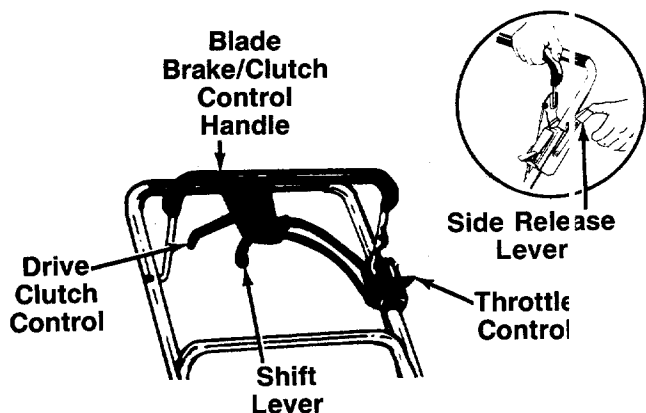

FIGURE 18.
To engage the blade, pull the side release lever away from the unit. See figure 18. Pull the blade brake/clutch control handle against the upper handle. Release side lever.
Squeezing the drive clutch control engages the drive mechanism to the rear wheels. Releasing the clutch control stops the rear wheels from driving. Release the drive clutch control to slow down when negotiating an obstacle, making a turn or stopping. See figure 18.
The six speed shift lever is located on the drive clutch control housing on the upper handle. See figure 18. This lever is used to select the operating speed of the mower. Release the drive clutch control when changing speeds.
2. To engage the blade, pull the side release lever away from the unit. Pull the blade brake/clutch control handle down against the upper handle. Release the side lever. See figure 18.